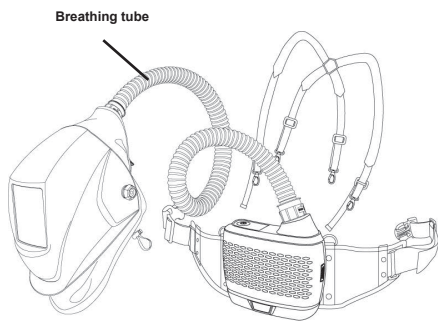
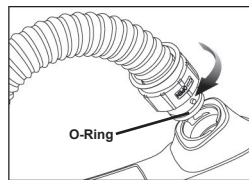

FIG. 21
FIG. 22
- Always inspect the end of the breathing tube to confirm the rubber O-ring is in place, see fig.22. Replace if missing or damaged.
Insert the two prongs on the breathing tube into blower unit and helmet receptacle (See fig.21), twist 1/4 turn to the anti -"OPEN" direction to lock into place (See fig.22).